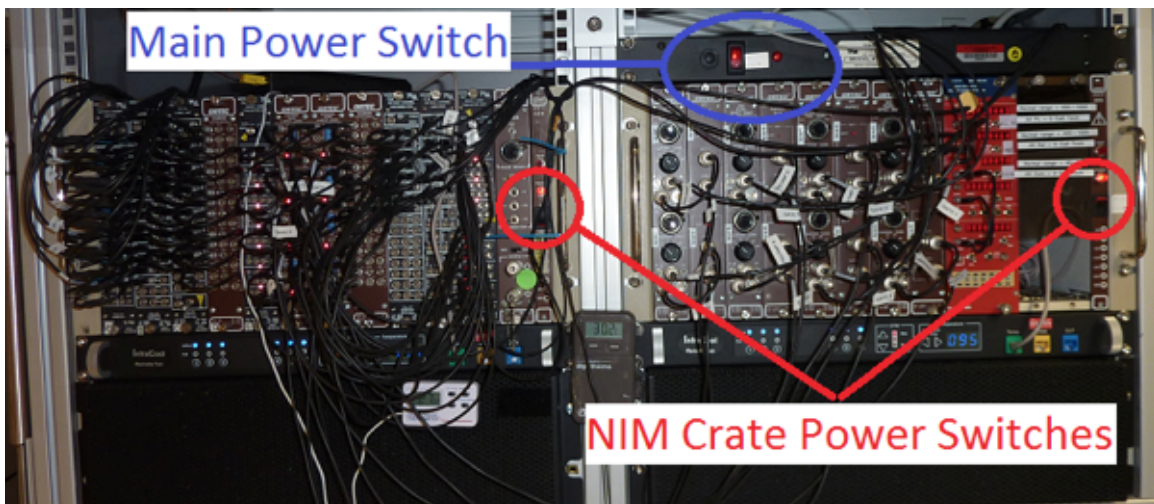

Figure 17. Master Power Switch.
3. Turn off the fast signal processing electronics (*Figure 17*; leftmost NIM rack).
5. Turn off the master power switch above the middle NIM rack (blue circle in *Figure 17*).
1. Turn on the master power button above the middle NIM rack (blue circle in *Figure 17*).